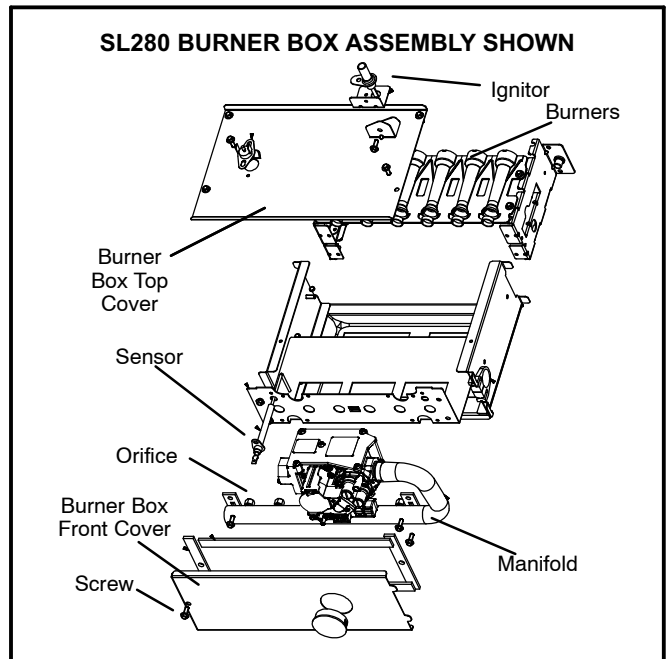

Figure 1
- 4 - Remove the screw that secures the burner box front cover and remove front cover. See figure 1.
- 5 - Remove the four manifold securing screws. Remove the manifold/gas valve assembly. Replace the main burner orifices with the provided orifices. Torque to approximately 35 in-lbs. See figure 1.